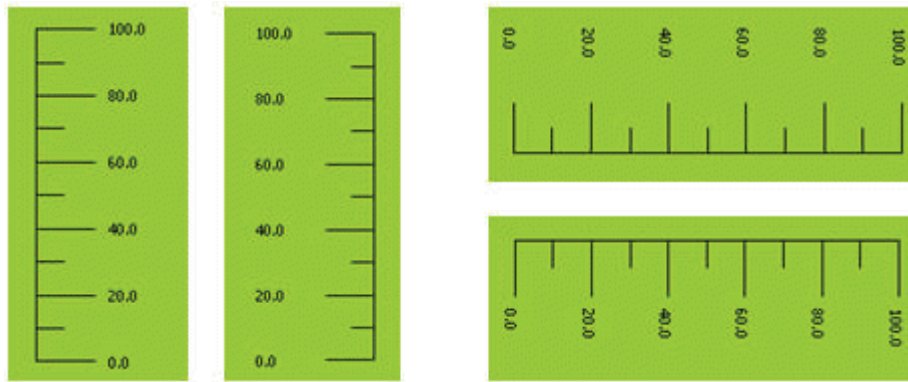

Figure 4-42: An example of a scale drawn
- After modifying the scale properties, click OK button to close the dialog. Then, in the picture editing window the mouse will become . Move the mouse to a position where the scale will be displayed, left click the mouse and drag it to another appropriate position before left clicking again. The system will automatically draw a scale. See Figure 4-42.